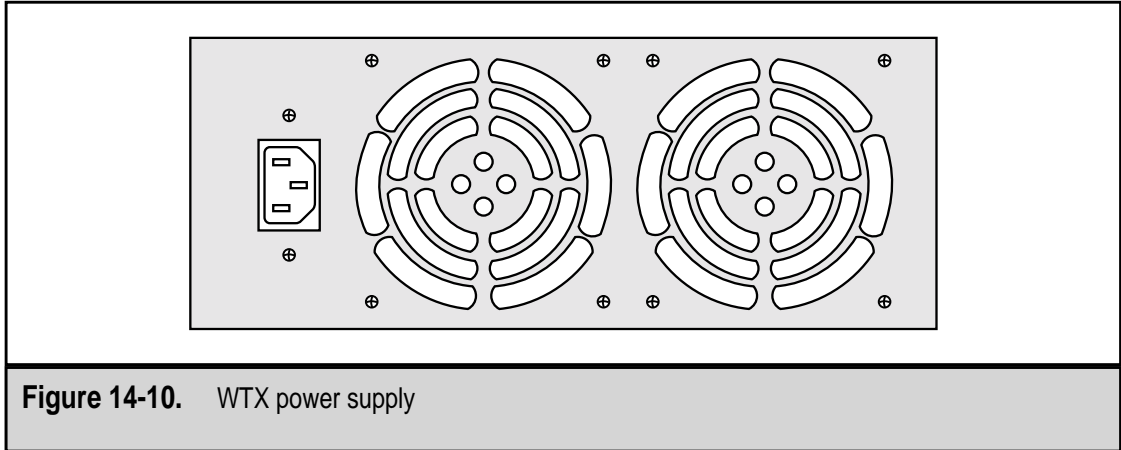

Figure 14-10. WTX power supply
- ▲ **WTX** This form factor is designed for use in large workstations (the *W* stands for workstation) and servers. The WTX power supply, illustrated in Figure 14-10, is bigger and more powerful than the power supplies in most other form factors. One feature that sets the WTX apart is that it features two system cooling fans.